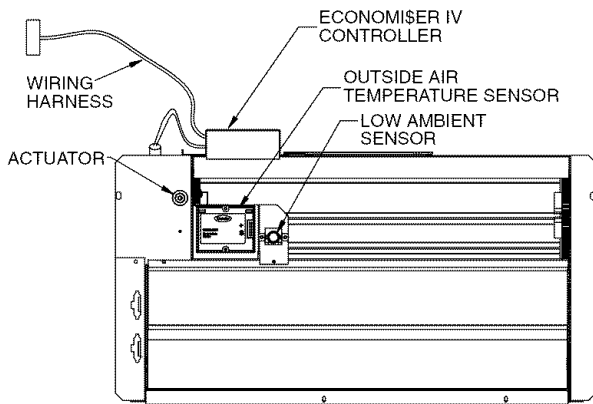
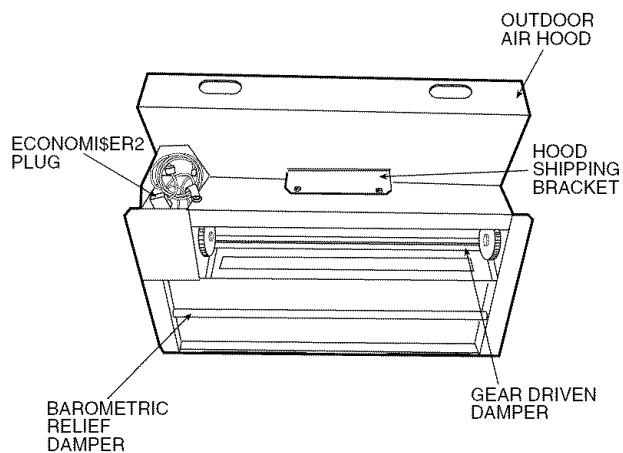
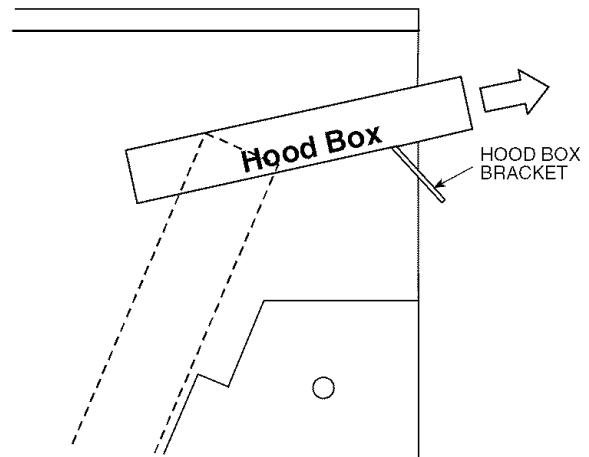

Fig. 19 — EconoMiSer IV Component Locations
Fig. 20 — EconoMiSer2 Component Locations
Fig. 22 — Hood Box Removal
OPTIONAL ECONOMISER IV AND ECONOMISER2 — See Fig. 19 for EconoMiSer IV component locations. See Fig. 20 for EconoMiSer2 component locations.
2. The box with the economizer hood components is shipped in the compartment behind the economizer. The EconoMiSer IV controller is mounted on top of the EconoMiSer IV in the position shown in Fig. 19. The optional EconoMiSer2 with 4 to 20 mA actuator signal control does not include the EconoMiSer IV controller. To remove the component box from its shipping position, remove the screw holding the hood box bracket to the top of the economizer. Slide the hood box out of the unit. See Fig. 22.
Outdoor Air Temperature (OAT) Sensor — The outdoor air temperature sensor (HH57AC074) is a 10 to 20 mA device used to measure the outdoor-air temperature. The outdoor-air temperature is used to determine when the EconoMiSer IV can be used for free cooling. The sensor is factory-installed on the EconoMiSer IV in the outdoor airstream. See Fig. 19. The operating range of temperature measurement is 40 to 100 F.
Outdoor Air Lockout Sensor — The EconoMiSer IV is equipped with an ambient temperature lockout switch located in the outdoor air stream which is used to lockout the compressors below a 42 F ambient temperature. See Fig. 19.